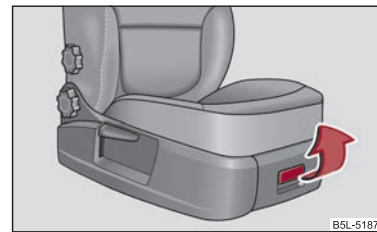

Fig. 95 Front passenger seat: Storage compartment
- Tilt the lock to open the flap and pull out the flap ⇒ fig. 95.